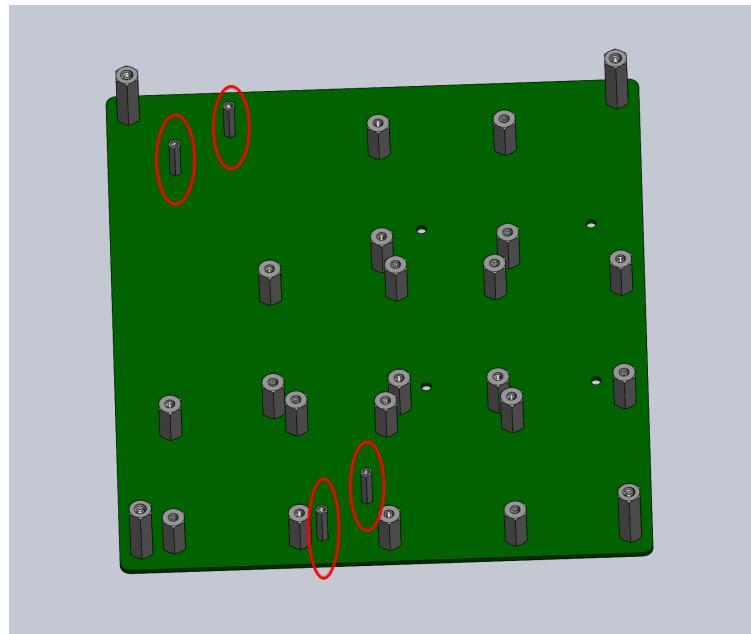

Figure 14: Voltage regulator Mounting Standoffs
3. **Voltage Regulator Standoffs:** On the **BOTTOM** side of the board, attach the four #2-56 Standoffs **T6** using screws **B13** as shown in Figure 14.